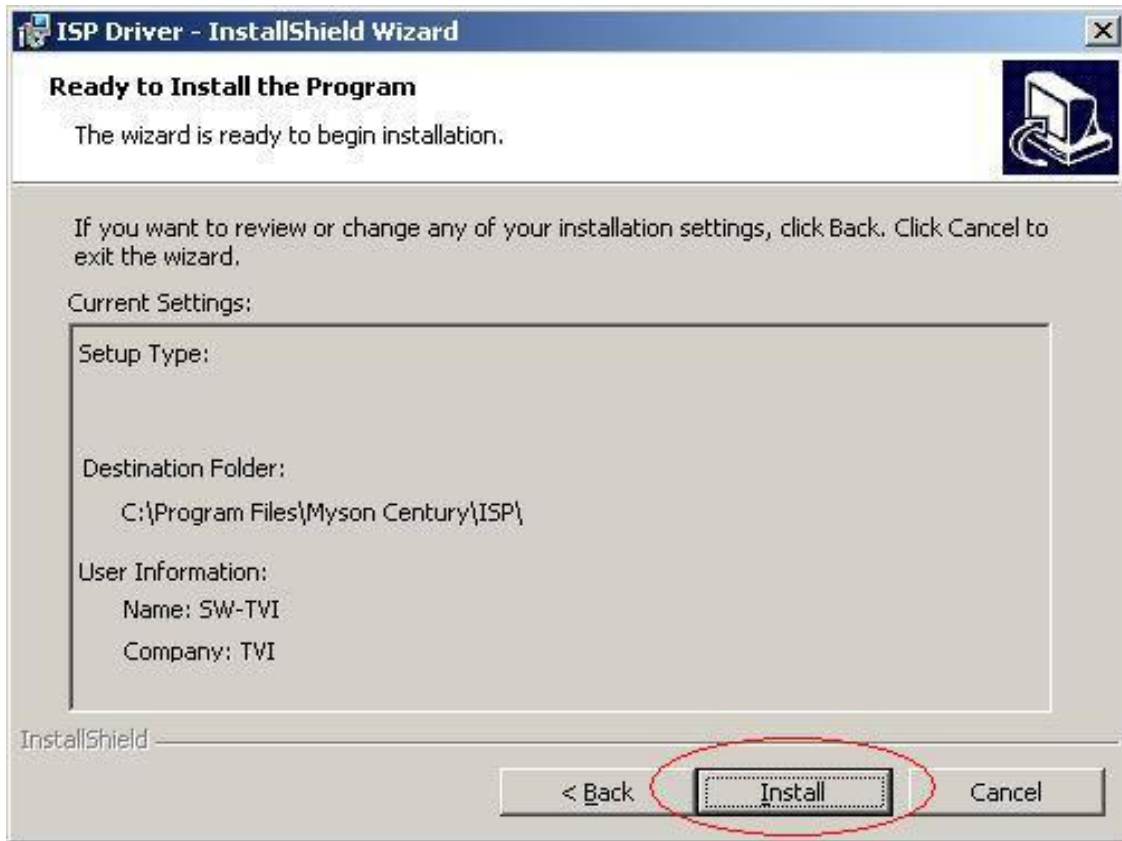

Fig. 1.3
5. Press the "Install" button to continue; see Fig 1.3.